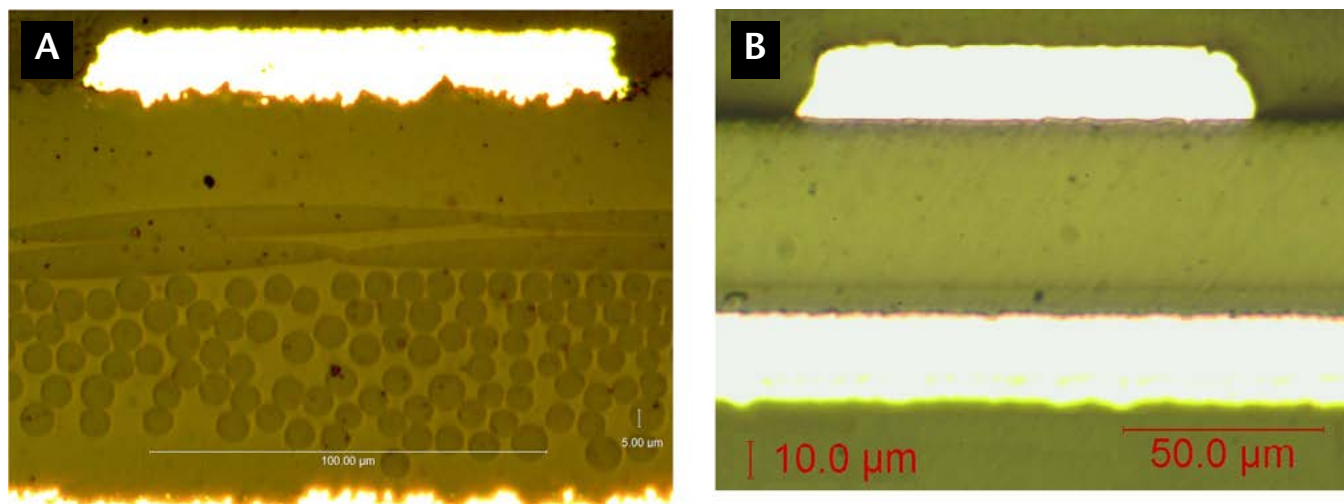
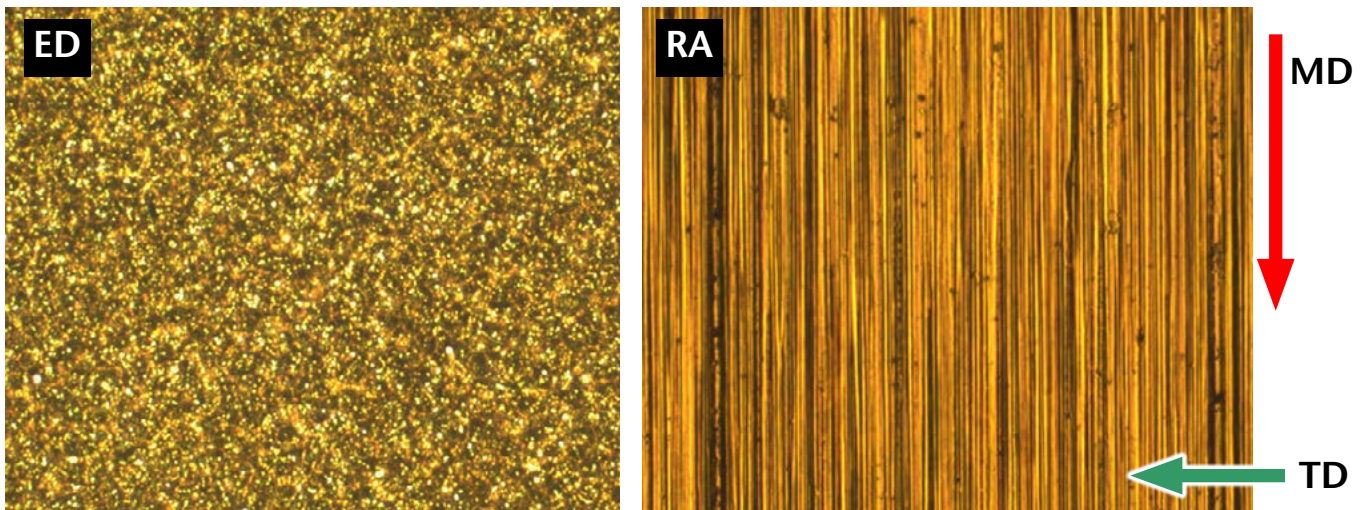

Figure 2: 50 ohm signal lines with rigid (A) and flex (B) materials.
Figure 3: (l) Optical microscope images of electrodeposited and (r) rolled annealed copper.
lines in Figure 2. Most rigid copper clad laminates are made by impregnating resin into a glass cloth. This means that the composite dielectric is created at the same time it is laminated. This is not the case for flex materials. Flex dielectrics are manufactured on large rolls of coated film and laminated to copper as a separate step. The advantage of this manufacturing method is that the thickness of these cast films are very consistent. This additional process step makes it less efficient to make constructions more than 100 um thick. While 100 um thick dielectric layers are considered to be “very thin” and thus challenging to make consistently using a glass/resin lamination process, this thickness range is considered to be “thick” for flexible circuit designs and by comparison relatively easy to manufacture.
the name rolled-annealed (RA). The improved ductility and larger copper grains make the copper more and less likely to crack due to bending. For this reason, many flexible circuits utilize RA copper instead of ED copper. Another difference between RA and ED copper is how the surface finish must be considered with respect to design and fabrication. Figure 3 shows a low magnification visual microscopic view of the outer copper surface of ED and RA copper clad laminates. Note that there is directionality in the RA copper which is why flex fabricators must always consider the machine direction (MD) in line with the rolls and the orthogonal transverse direction (TD). If one refers back to Figure 2, the impact of this directionality can be seen in the copper profile. The ED copper in Figure 2 (A) is much rougher while the telltale grooves of the smooth RA copper can be seen in Figure 2 (B).